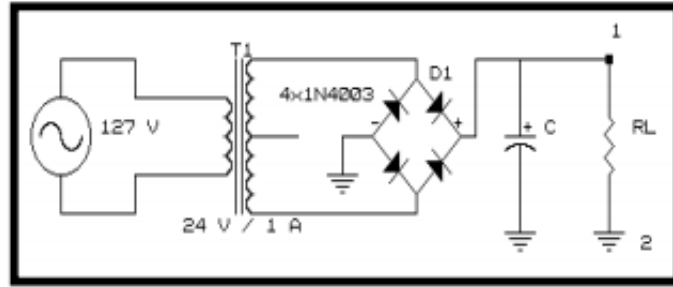

Figure 3.7.0: Full-wave rectifier circuit with filter.
Once the circuit it's armed using the  $100\Omega$  **resistor** as  $R_L$  we will measure with the voltmeter the **Voltage** and **Current** in this component. According to the Figure 3.7.0, we will connect the Positive terminal of the voltmeter in the terminal 1 of Figure 3.7.0 and the Negative terminal of the voltmeter in the terminal 2 of Figure 3.7.0, we will call this voltage  $V_0$  for the current  $I_0$  we can use **Ohm's Law**:
Table 6: Measured values of Figure 3.7.0.
The small unwanted residual periodic variation of the direct current (DC) output of a power supply which has been derived from an alternating current (AC) source it's called **Ripple**. To measure the **ripple voltage**  $\Delta V$  it's necessary to connect the **oscilloscope terminals** in the terminals 1 and 2 of the Figure 3.7.0 in the option of AC.
Table 7: Ripple Voltage of Figure 3.7.0.